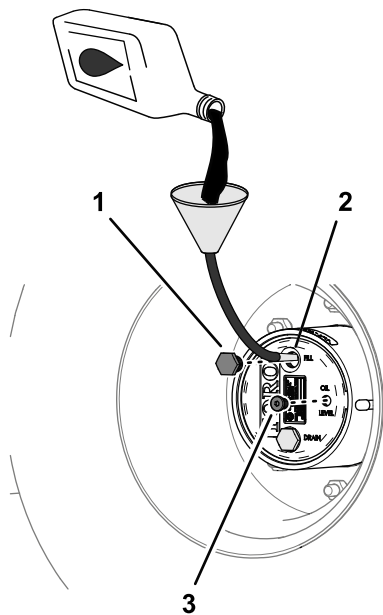

Figure 85
4. If the lubricant level is low, remove the fill plug and add the specified lubricant until it begins to flow out of the check-plug hole (Figure 85); refer to Planetary-Gear-Drive Lubricant Specification (page 65).
6. Install the fill plug and the check plug (Figure 85).
1. Through the fill-plug hole, slowly add the specified gear lubricant; refer to Figure 85 in Checking the Planetary-Gear-Drive Lubricant (page 65).
3. Install the fill plug and check plug; refer to Figure 85 in Checking the Planetary-Gear-Drive Lubricant (page 65).